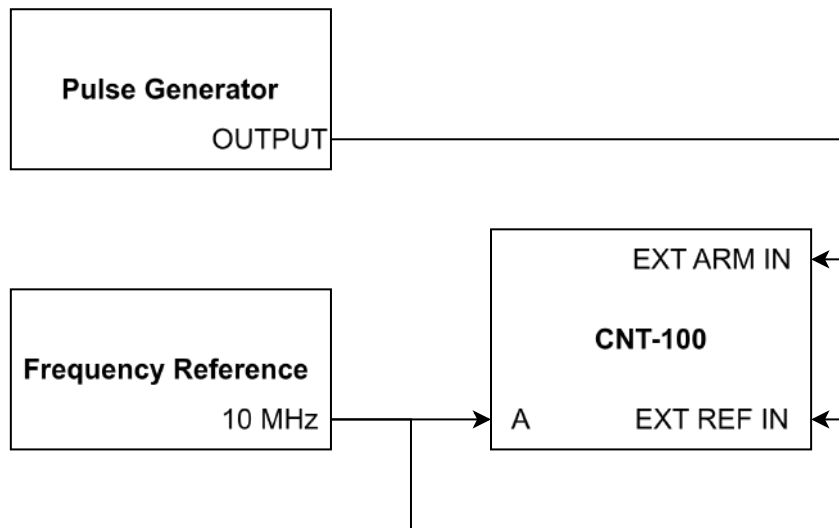

Fig. 9.7: External Arming Input test setup
- Make connections according to Fig. 9.7.